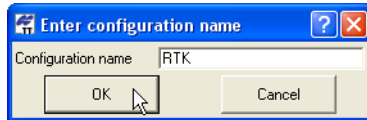

Figure 2-10. Enter Configuration Name
- The **Save Configuration** button opens the *Enter configuration name* dialog box in which to name a new configuration (Figure 2-10). See also “Creating a New Job” on page 2-2.